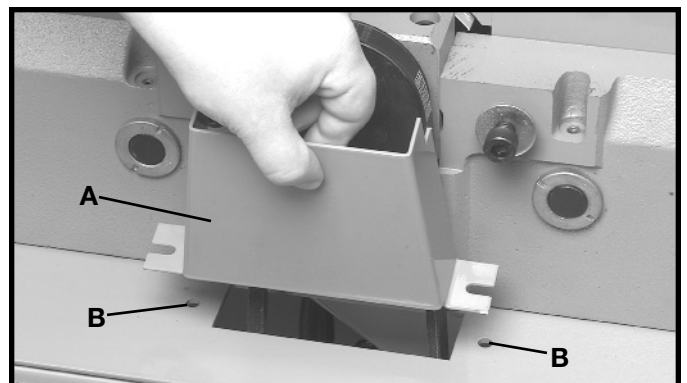

Fig. 10
1. Align the two holes in the cutterhead pulley/belt guard (A) Fig. 10 with the two holes (B) in the top of the stand.
2. Place a 1/4" flat washer on an 1/4-20x5/8" hex head screw, and insert the screw through the hole in the cutterhead pulley/guard (A) and the hole (B) in the top of the stand. Thread a 1/4-20 hex nut onto the screw and tighten securely. Repeat this process for the remaining hole in the cutterhead pulley/belt guard.